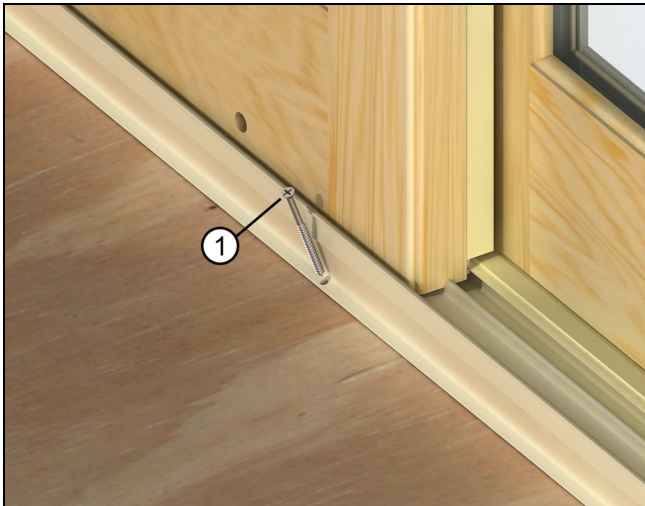

Figure 11
8. Standard OXXO: Secure the sill to the sub floor with provided 3/16" x 2 3/4" flat head masonry anchor screws through all three pre-drilled holes. See Figure 11.